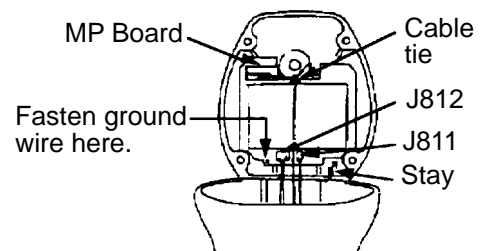

Figure 6-19 Antenna unit, cover opened
4. Open the antenna housing cover and fix the stay as shown in Figure 6-19.
5. One end of the cable with 15-, 9- and 7-way plugs has already been connected to RTB-9100 inside the scanner housing. Mate the 15- and 9-way plugs with jacks J812 and J811 on the transceiver module, respectively. Connect the 7-way plug to jack J701 on the MP Board. Secure the cable between RTB-9100 and J701 with the cable tie as shown in Figure 6-19.
6. Fasten the ground wire (black) of the signal cable to the chassis as shown in Figure 6-19.